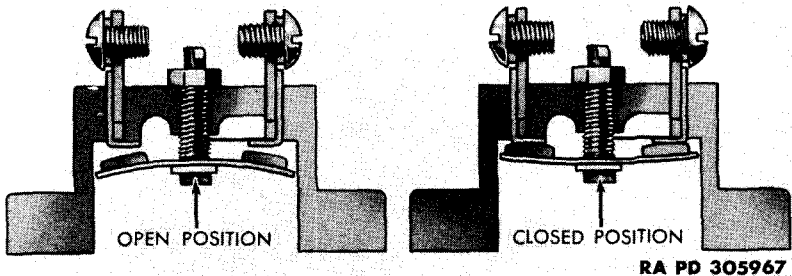

Figure 158—Circuit Breaker—Open and Closed Position
a. **Description.** The lighting system is protected by circuit breakers. In the closed position (fig. 158), a snap-acting disk bridges
two terminals thereby maintaining a circuit. At predetermined overloads, the resistance heat caused by current passing through disk snaps disk into reverse position, opening contacts and breaking circuit (fig. 158). A short time after opening, disk automatically closes and re-establishes a circuit. If overload conditions still exist, breaker automatically reopens. If overload conditions are corrected, breaker remains closed.